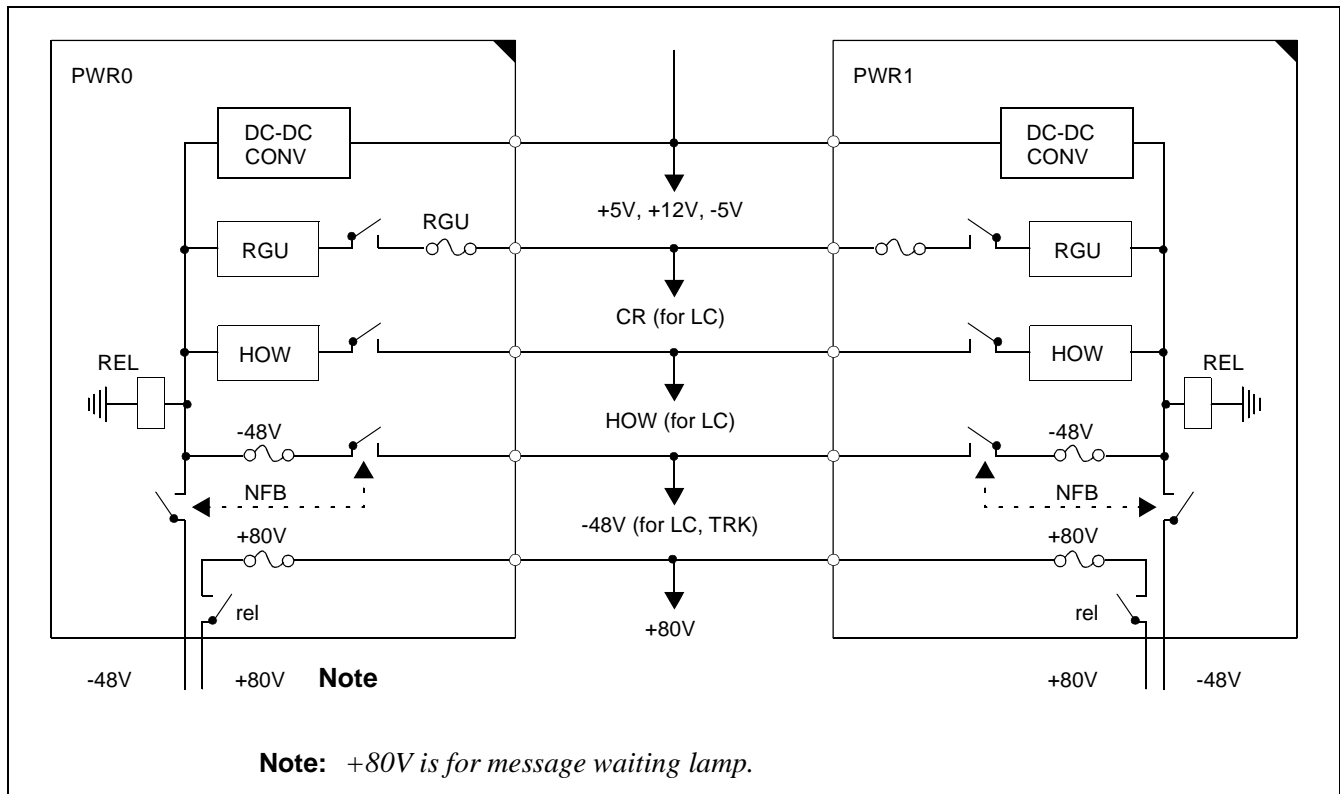

Figure 5-16 Power Supply to PIM
(4) Figure 5-16 shows the power supply system for PIM.